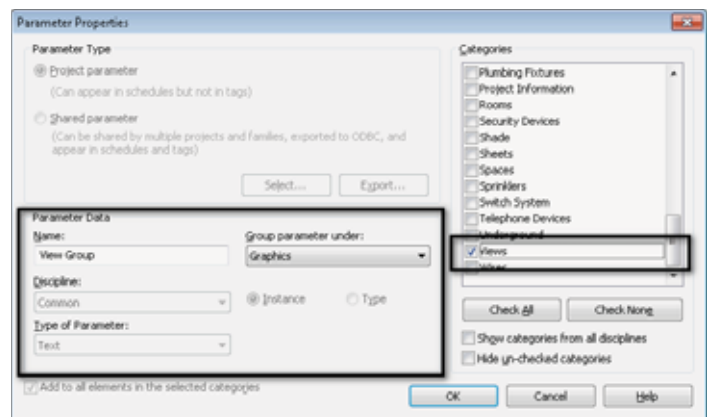

Figure 4 - View Group and View Type Project Parameters settings
Step 2: Fill out the necessary data for all views. Refer to Figure 4 and Figure 5 for an example.